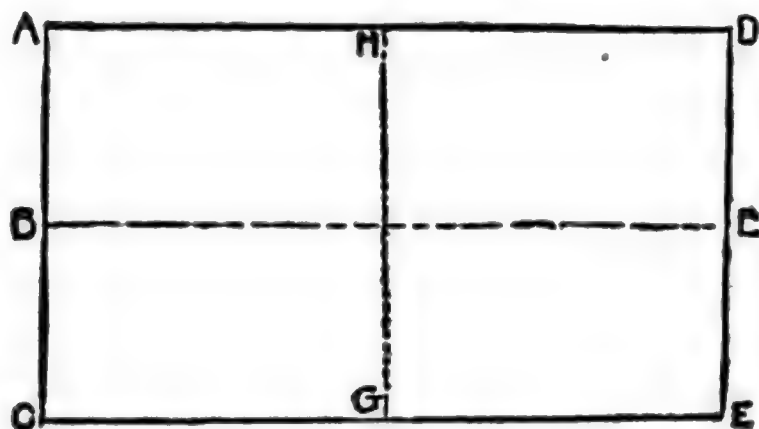
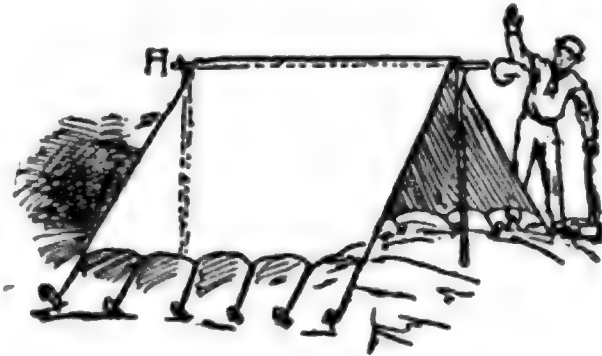
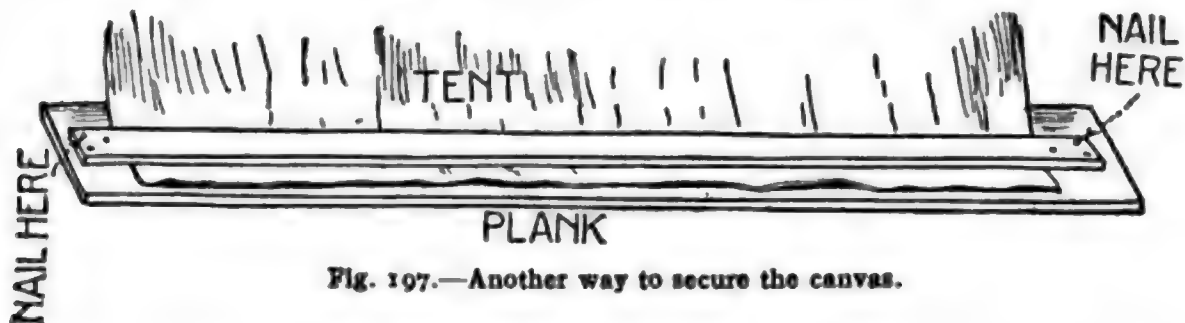

Fig. 195.—The canvas used.
Fig. 196.—A simple form of tent.
Fig. 197.—Another way to secure the canvas.
improvise a tent. Suppose the piece is of the form of Fig. 195; it can be thrown over the clothes-line, or a clothes-line prop may be used, supported at each end by forked sticks, and the canvas pegged down at sides, as is shown in Fig. 196. In case there are no eyelets to which to attach tent-ropes and you do not wish to injure the material, the sides may be secured by allowing them to rest upon a plank and fastening them there with a strip of wood nailed over the canvas, as shown in Fig. 197. You will notice that the nails in this case are driven in at the ends of the strip only, and they cannot injure the piece of awning.
Fig. 198 shows another manner of building a shelter tent of this same piece of cloth. Now, if you will cut a piece of writing-paper in the form of Fig. 195, fold it in the middle horizontally along the line B E and crease it, then smooth it out again and fold
but, of course, the latter will not hold its form as paper does unless it has a frame of some sort to support it; so, after you have folded your piece of canvas (Fig. 195) in the form of Fig. 201, measure the line, B G or E G, and cut two sticks about 1 foot longer than these lines (see B G and E G, Fig.
Take your pattern from a pair of close-fitting drawers and sew the fringe inside the outer seams (Fig. 195), as shown in the diagrams of the buckskin shirt (Fig. 194). Leave the bottom of the leggings slit up for 5 or 6 inches (Figs 195 and 197). This is to allow you to slip your foot through when putting them on.
Have each leg separate, as shown in Fig. 197, and sew two stout loops at the top for the belt which supports them to run through. They will fit on over your other trousers, if necessary, or may be worn as shown by Fig. 196, and the waist part covered up
by the hunting shirt as shown in the full dress figure (Fig. 195). These leggings being tight and cut to the shape of the limbs will support themselves in a measure and a belt is all that is necessary to keep them in proper position.
**Fig. 195.****Fig. 195.—In full pioneer's costume.****Fig. 196.****Fig. 196.—How the leggings are put on.****Fig. 197.****Fig. 197.—The leggings are cut like a cowboy's leather chaps.**